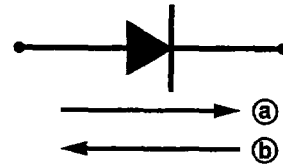

Fig. 5-8-1
DC output is taken out from the DC coil and is fed to the diode stack (rectifier) where the output undergoes full-wave rectification and is then supplied to the load. The diode works to allow the current to flow in the direction ①, but does not allow the current to flow in the direction ②, as shown in Fig. 5-8-1.